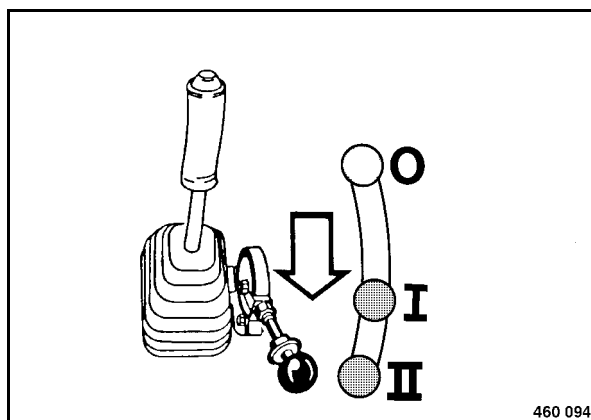

Fig. 57
- Shift the throttle lever (Fig. 57) to position "I" (40 Hz) or "II" (60 Hz) and lock it.